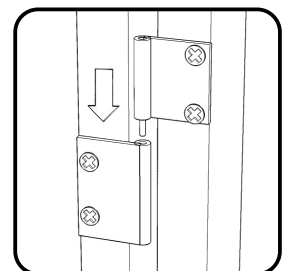

Figure 6
Attach Door (N) to unit by sliding door hinges into side panel hinges. (See Figure 6)